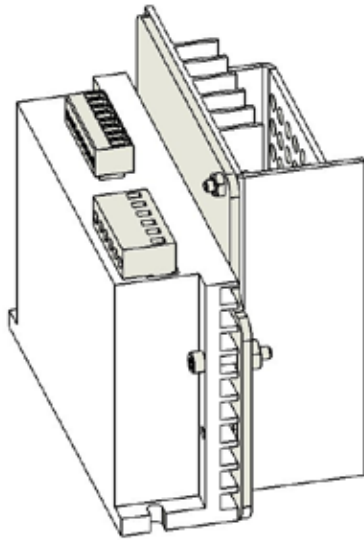

FIG. 2
6. Verify the dip switches on the Stepper Control are correct. See FIG. 2 below.